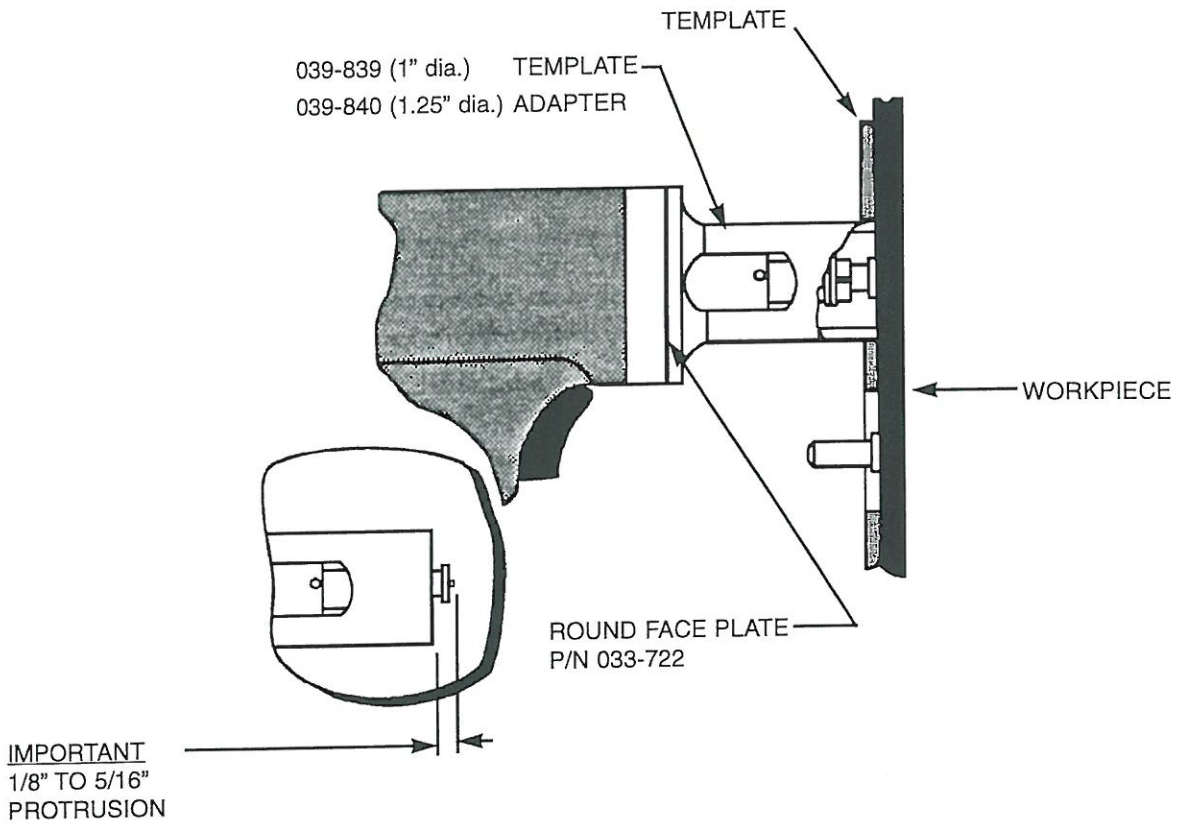

Figure 6-3 Template Adapter Gun Setup
6.4 Template Adapter (see Figure 6-3)